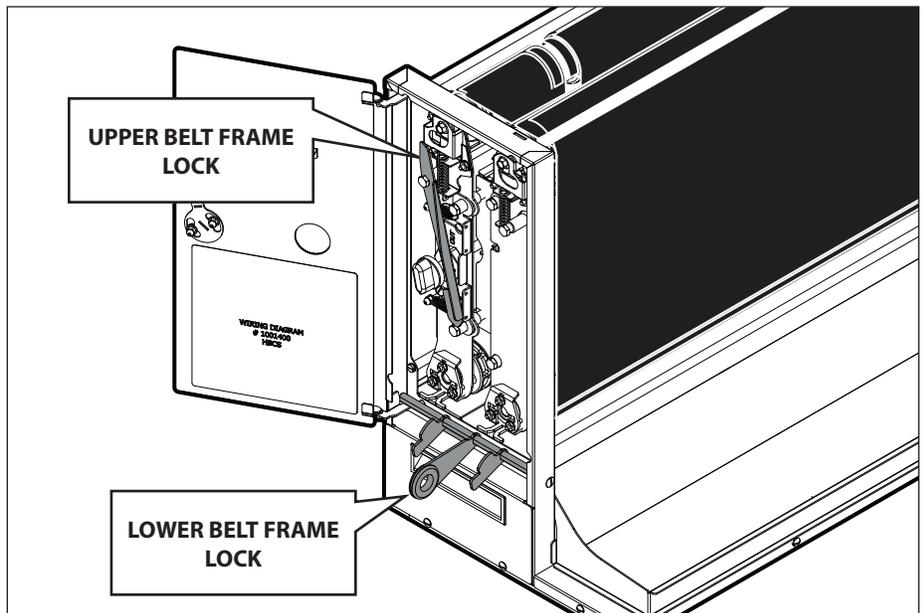

Figure 4. Conveyor Locks
1. When the unit is plugged in, press and hold the MENU button (Figure 4) for five seconds. The control panel displays "A Platen." The display scrolls to show the actual temperature, SSR Duty cycle, and the setpoint. Example: A Platen: 271°C 35% 271°C
2. Use the LEFT and RIGHT arrow buttons (Figure 4) to scroll through the settings, which appear in the following order:
3. To change a setting, press the OK button and then use the LEFT and RIGHT arrow buttons to adjust as needed. Press the OK button again to save the changes. See Figure 4.
7. Lift the upper belt frame lock. Then rotate down so it rests on the camshaft of the rear belt roller. See Figure 4.
8. Pull down the lower belt frame lock (Figure 4). This provides access to the front and rear belt rollers and belts.